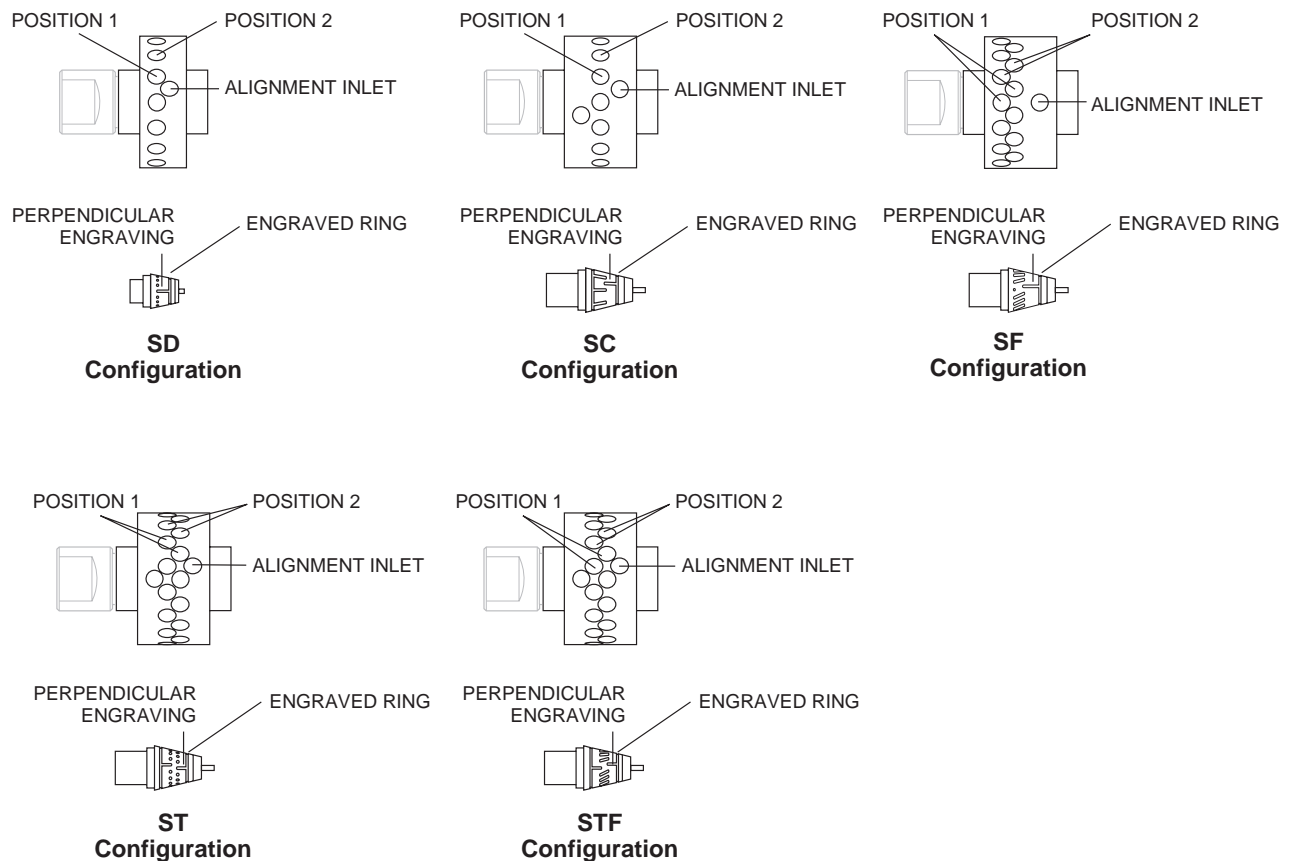

Figure 1:
The valve will have either one (SD and SC) or two (SF, ST, and STF) rows of ports evenly spaced around the circumference of the body. **See Figure 1.** In addition, there will be one (SD and SF) or two (SC, ST, and STF) “common” ports offset to either side of these rows. With the valve close to you and the actuator away, Position 1 falls to the left of or counterclockwise from the common port(s). The rotor will have either one or two flow passages appearing as engraved rings around the seal, which intersect the common port(s). Flow passages perpendicular to the ring(s) connect the ring(s) to the selected port(s).
3. Establish a flow of clean gas (50 psi is adequate) into the port offset toward the actuator. This port, called the alignment inlet in **Figure 1**, will be the designated inlet throughout this procedure.
4. With the valve closest to you and the actuator away from you, grip the valve and rotate it (the actuator keeps the rotor fixed) until gas flows from the port to the *left* of or counterclockwise from the alignment inlet. This port corresponds to Position 1. (See **Figure 1**)